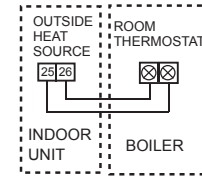

Fig.6-12
1. If the external heat source needs one switch signal to control the input situation, then directly connect the corresponding wire terminal of this machine with the corresponding terminals of the external heat source, as describing in Fig.6-12.